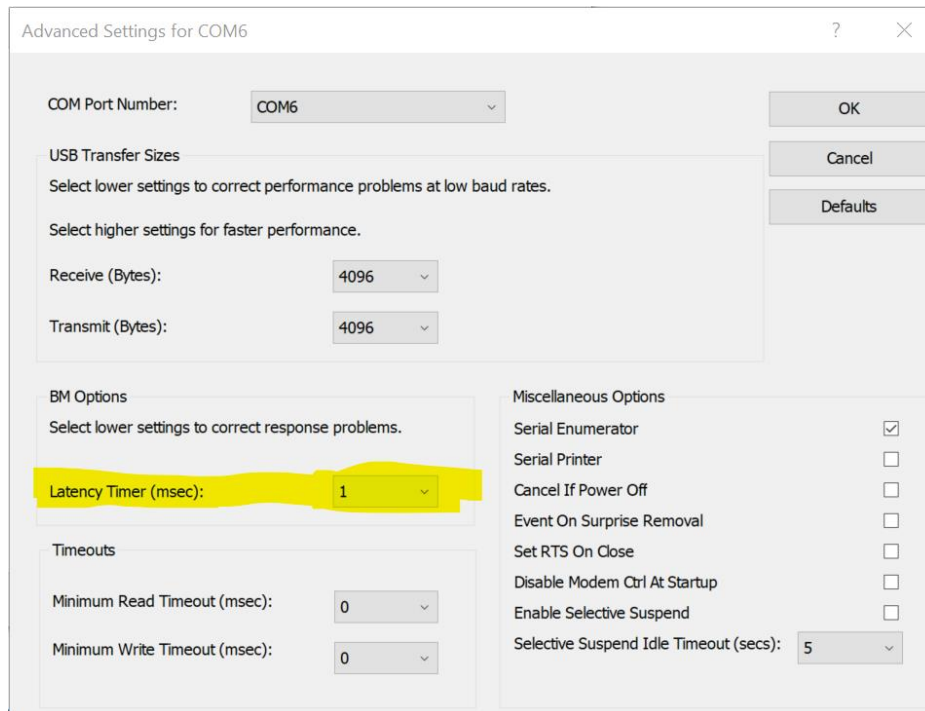

Figure 2, Advanced Settings with correct latency
4. Ensure the latency is set to 1ms, as shown in Figure 2